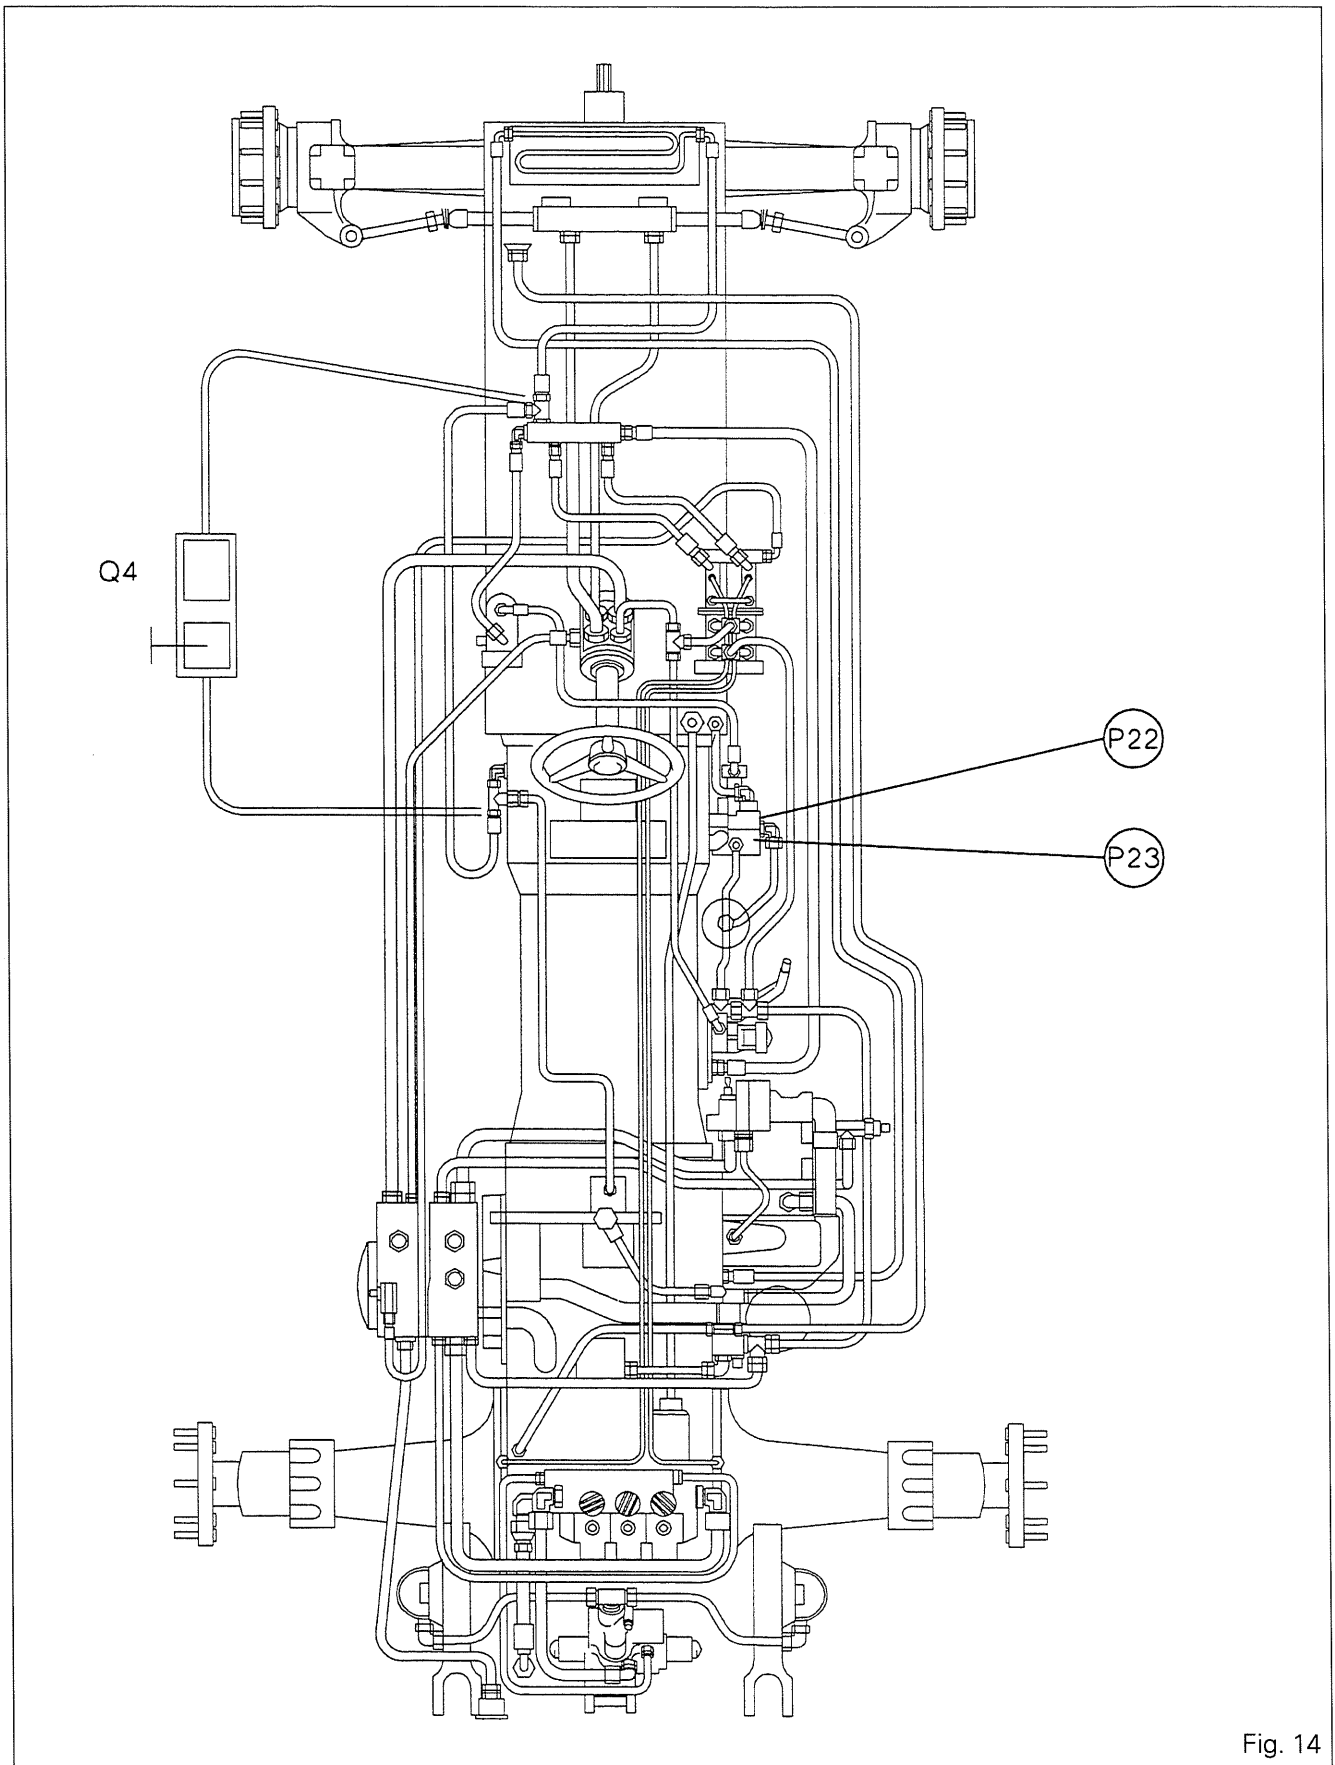

Fig. 14
- Connect a pressure gauge to the quick coupler on the brake system (Fig. 14) to read **P15**.
- As shown in Figure 14, connect a pressure gauge to the cooler inlet to check **P18** and onto the cooler outlet to test **P19**.